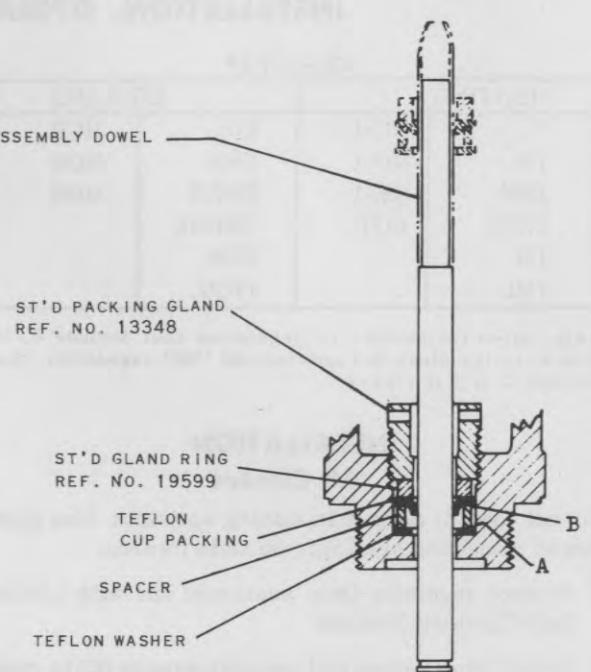

FIG. 2 Assembled Teflon Stuffing Box
- Replace valve stem in bonnet and assembly dowel over stem. Slide washer, spacer, cup packing and gland ring as shown in Fig. 2 over stem into box.